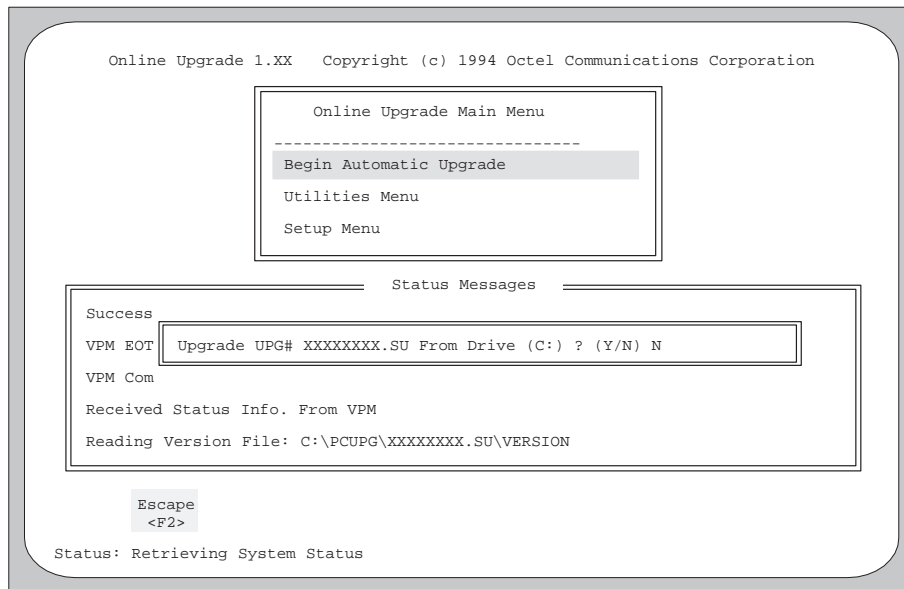

Figure 13-15. Example of Status Messages Box With Confirmation Prompt.
6. At the **Enter System Manager Password:** prompt that appears in a prompt box, enter the system manager password, then press **Enter**. Status messages appear and scroll until a screen similar to Figure 13-15 appears.
7. At the *Upgrade UPG# XXXXXXXX.SU From Drive (C:) ? (Y/N) N* prompt (Figure 13-15), type *Y* and press **Enter** to continue the upgrade; leave the default of *N* and press **Enter** to discontinue the upgrade.